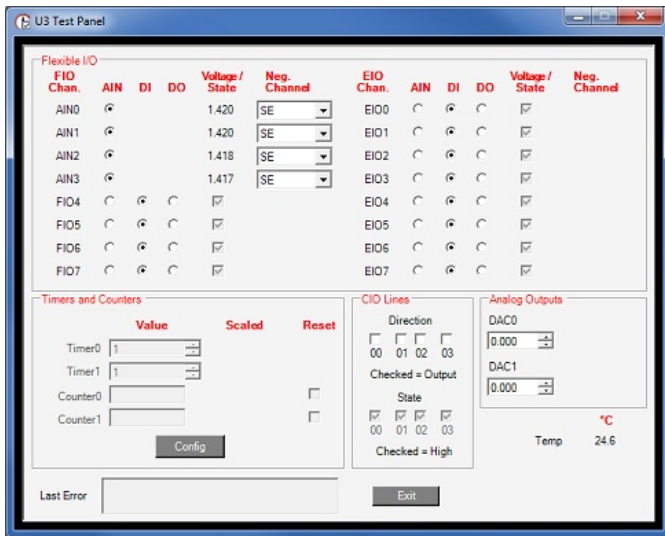

Figure 1-3. LJControlPanel U3 Test Window
- Test: Opens the window shown in Figure 1-3. Starts with Factory Default settings.
Figure 1-3 shows the test window for a U3 device. This window continuously (once per second) writes to and reads from the selected LabJack.